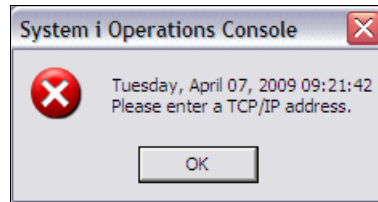

Figure 7-38 IBM System i operator console
6. If this is a first-time connection, the console responds as shown in Figure 7-38 on page 278.